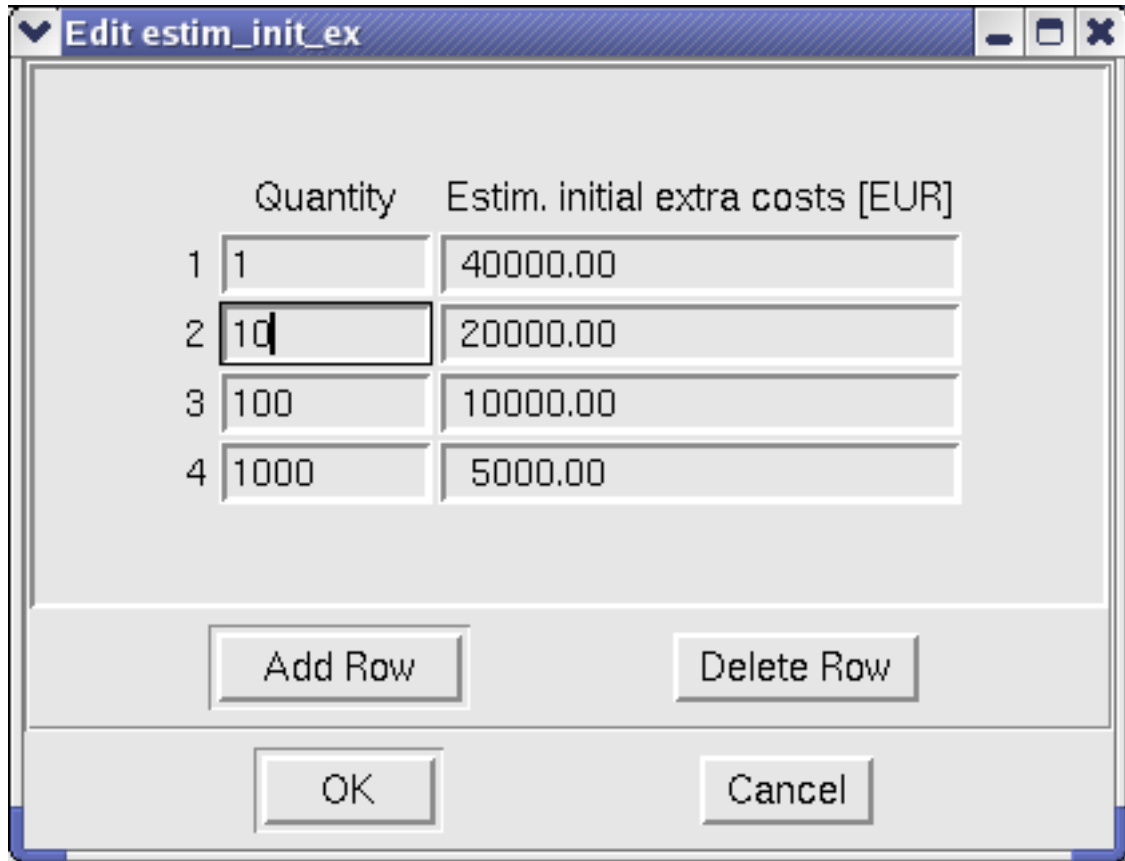

Figure 9: Cost-table editor allows automatic *economy of scale calculations* for network.
- Estim. initial extra costs = All initial investment costs which are not proportional to the track length (extra poles and structures, elevators, etc.). This cost item can be edited in a quantity/cost table by pressing the Edit... button, see Fig. 9. The quantity is here the number of this type of track element in the current network, which will be automatically determined when calculating the costs.